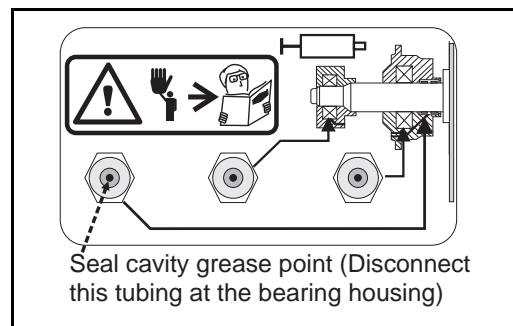

FIGURE 3 (MSSM0271AE) — Identifying the Seal Cavity Grease Point
1. Locate the tubing running from the seal cavity grease point to the bearing housing (FIGURE 3). Disconnect this tubing at the bearing housing.